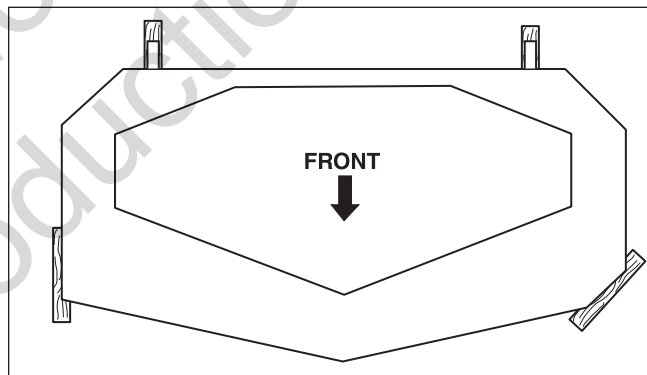

Figure 40. 2 x 4 Locations
6. Block up the mower deck until all hanger chains are slack. Refer to Figure 40.
3. Place 2 x 4 blocks under each corner of the mower deck with the 3-1/2" sides being vertical. See Figure 40.